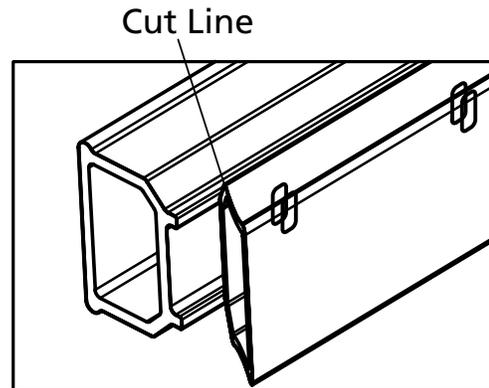

Figure 28
6. Place the top rail next to the bottom rail with the marked ends together. Using the bottom rail as a guide, center the routed holes in the top rail with the routed holes in the bottom rail. Mark the cut lines on the top rail (Figure 28).